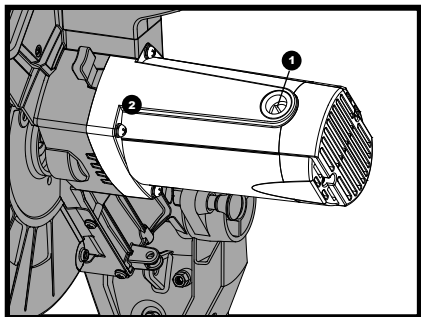

Fig 38
Replace both carbon brushes when either has less than 6 mm length of carbon remaining, or if the spring or wire is damaged or burned. To inspect or replace brushes, first unplug the saw. Then remove the black plastic cap (1) on the side of the motor (2). Remove the cap cautiously, because it is spring loaded. Then pull out the brush and replace. Replace for the other side. To reassemble reverse the procedure. The ears on the metal end of the assembly go in the same hole the carbon part fits into. Tighten the cap snugly, but do not overtighten. (See fig.38)